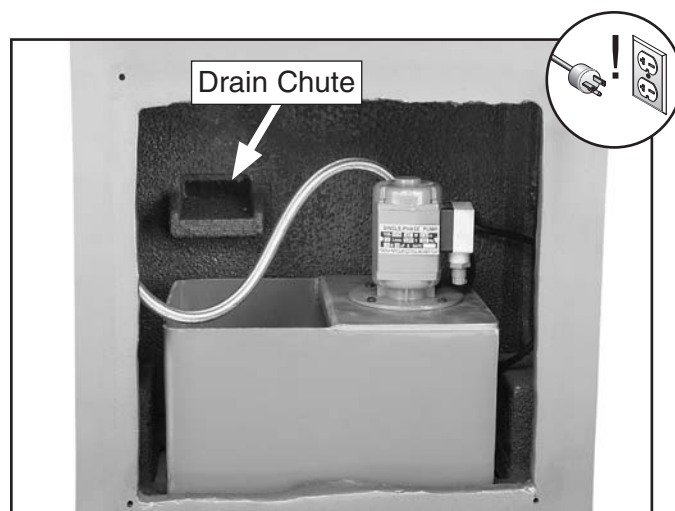

Figure 83. Coolant tank and pump.
2. Remove the right side access panel to examine the coolant tank, as shown in **Figure 83**.
6. Refill the tank with approximately three gallons of coolant, re-attach the pump, then position the tank all the way to the left underneath the drain chute (see **Figure 83**).